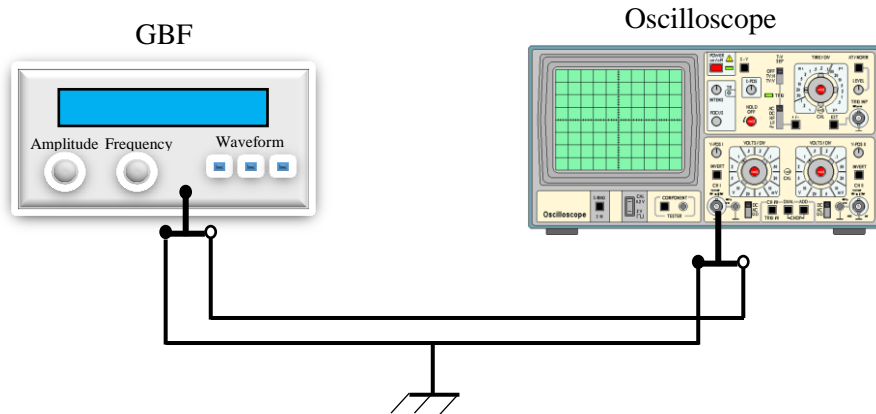

Figure 5.3. Diagram of the circuit for measuring a voltage.
- 1- Assemble the circuit as shown in the figure 5.3.